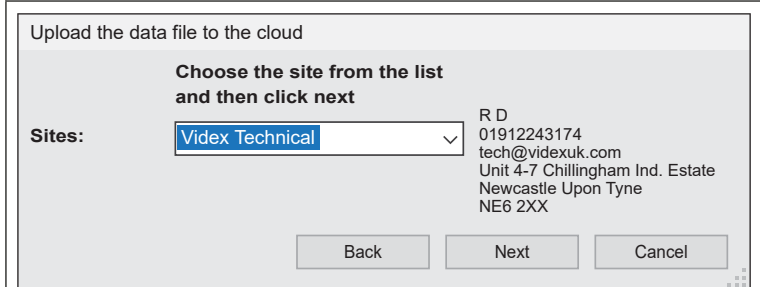

Fig. 107
4. Select the name of the site that was created in the **SMS Wizard PRO App** from the drop down list. The sites contact details will appear to the right of the drop down list, as shown in **Fig.107**.